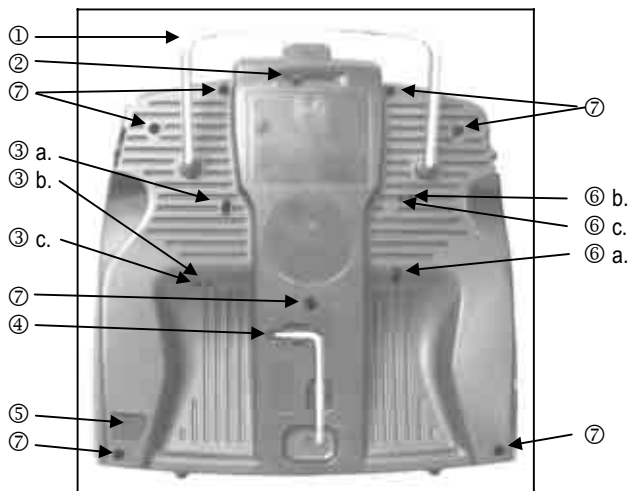

Fig. 9.3: Back of transmitter
There is no need to open the transmitter for this, as the screws can be accessed through the holes in the back of the transmitter. Fig. 9.3 shows the position of the various adjustor screws.
The screws for altering the centring spring tension are not externally accessible; the transmitter must be opened for this (7 screws, ⑦ in Fig. 9.3.).
The transmitter case must be opened in order to replace the transmitter battery (7 screws, ⑦ in Fig. 9.3.).